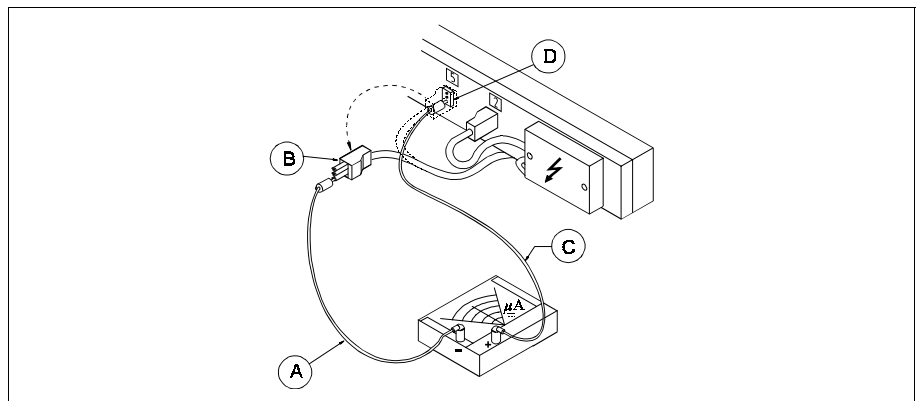

Fig. 22 Measuring ionisation
- e. Remove the RH upper side panel and within the control panel remove the test link for the flame detection (see wiring diagram) and connect a μA -meter (0 - 50 μA =) in series with the flame detection circuit (see fig. 22). While measuring ionisation the main burner should stay switched off. To do this, disconnect the main gas valve by breaking the electrical connection by removing the
plug (4a). Remove the ionisation plug (5). Connect the black wire (-) (A) of the μA -meter with the lowest contact in the plug (B) (see fig. 22). Connect the red wire (+) (C) of the μA -meter with the lowest contact in the ionisation socket (D). The ionisation of the pilot burner must show a minimum of 5 μA during 10 seconds after which the burner falls into flame detection lockout. Wire the main gas valve back to its originally conditions. Repeat the test by starting the boiler to maximum operation. Check that the μA -meter reads at least 5 μA after 10 seconds.